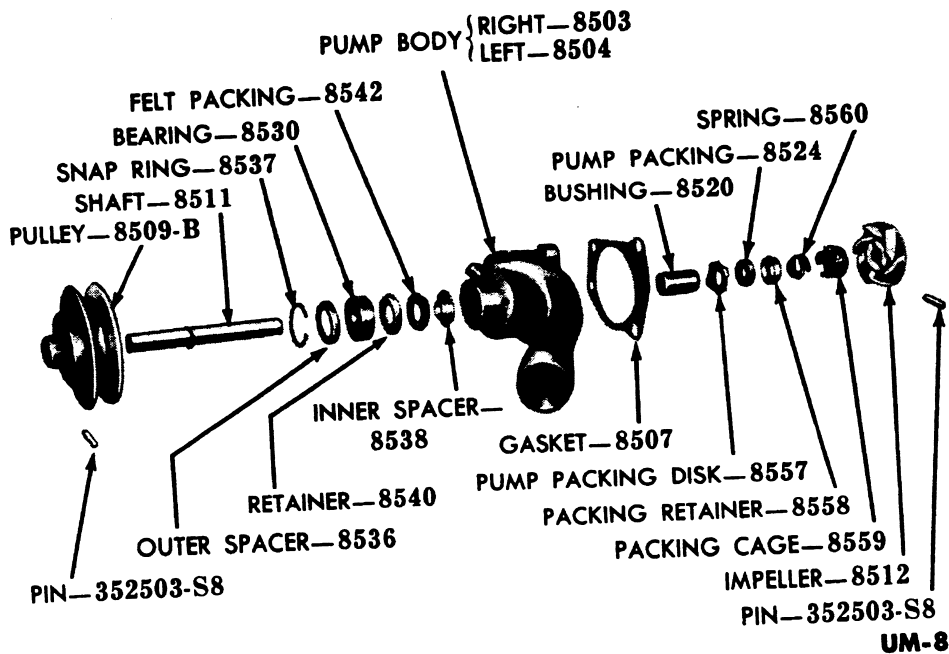

Figure 112—Water Pump, Disassembled (12-Cylinder).
c. 12-Cylinder Engine (fig. 112).
(a) **DISASSEMBLY** (fig. 112). Press the pin out of the impeller, and press the impeller off the pump shaft. Remove the pump packing cage, spring, retainer, pump packing, and disk from the shaft. Press the pin out of the pump pulley, and press the pulley off the shaft. Press the bushing out of the water pump body with the pump shaft. Remove the lock ring from the pulley side of the pump body. Press the bearing spacer, bearing felt retainer, felt, and inner spacer, out of the pump body.
(c) **ASSEMBLY** (fig. 112). Place the inner spacer, felt, and felt retainer in position in the pump body. Place the bearing and bearing spacer in position on the pump body, and press them in place. Install the lock ring, pump shaft, and bushing. Install the disk, pump packing, retainer, spring, and pump packing cage on the shaft. Insert the shaft through the pump body, and install the bushing. Place the disk, pump packing, retainer, spring, and pump packing cage on the shaft. Press the impeller on the shaft, and align the pin hole in the impeller with the hole in the shaft. Install the pin. Press the pulley on the other end of the shaft, and align the hole in the pulley with the hole in the shaft. Install the pin.